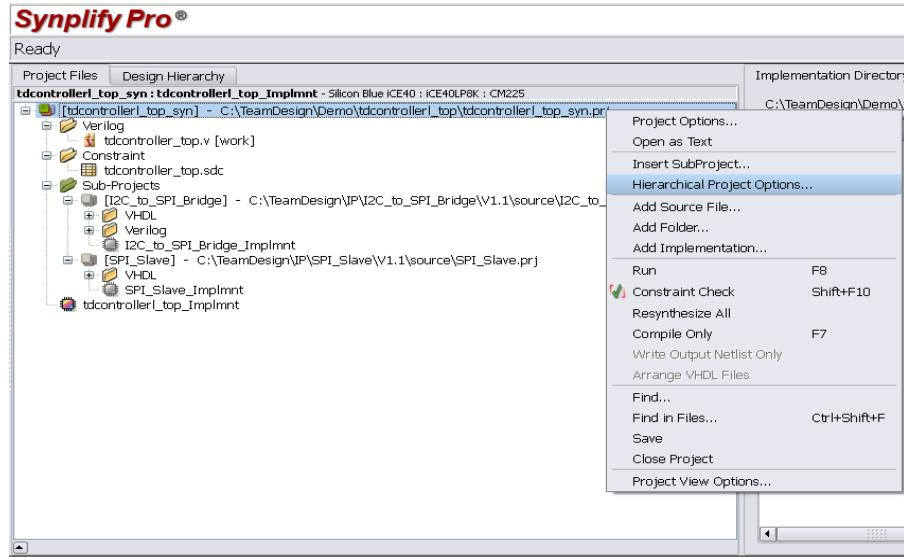

Figure 9-10 : Select Hierarchical Project Options Menu
1. In the Synplify Pro tool, select the top level project and right-click it. Select “Hierarchical Project Options” as shown in Figure 9-10.